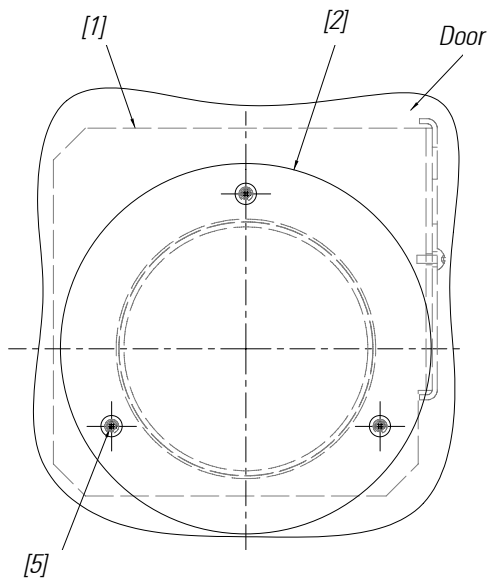

Figure 4. Secure door rings with pan head screws.
- d. Loosely secure each ring to the door with pan head screws per Figure 4.